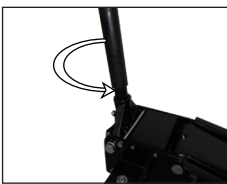
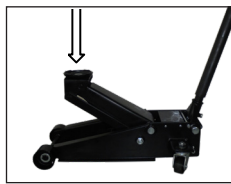

fig 1.
fig 2.
- Open release valve with the handle assembly (fig.1) not more than two twists and press down on head cap (1) (fig.2) to ensure lifting arm is fully down.